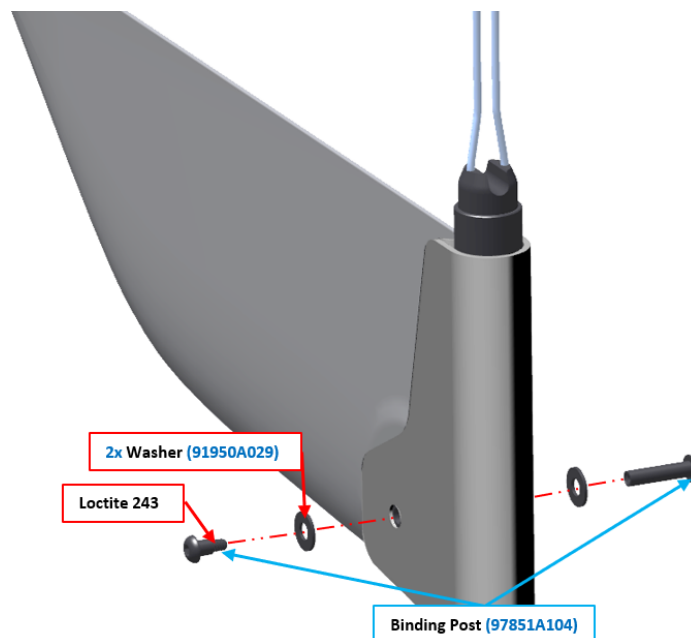

Figure 8. Binding Post
- k. Connect the water rudder to the pivot flange with a 97851A104 Binding Post, with a 91950A029 Washer under each head. Use LOCTITE 243 on the threads and torque to 20 in-lb. **(Figure 8)**